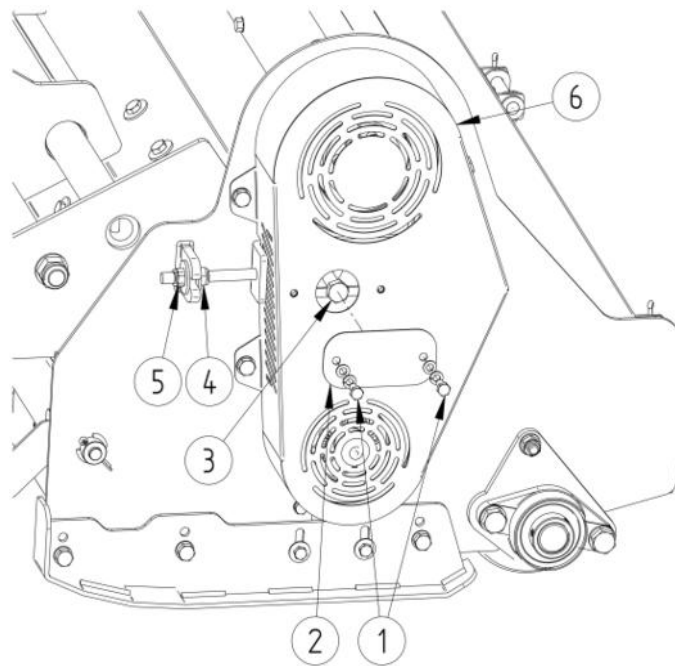

Fig 6. Belt tensioning scheme
All the spots marked on the fig. 6, are equipped with ball grease nipples, fill with grease LT43 using a grease gun. Grease the PTO shaft after removing it from the machine. The telescopic part of the shaft should be lubricated at least after 8 hours of operation - with the shaft fully extended and after prior removal of impurities.
- grease the machine according to the greasing diagram (fig. 6).